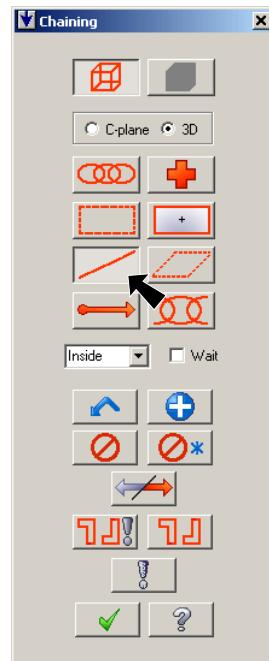

Fig. 15
Step 1. Click Single  in Chaining dialog box, Fig. 15.